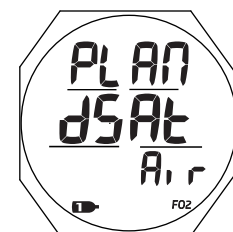

Fig. 29A - PLAN LEAD-IN (Gas 1 set for Air)
**Plan Lead-in**, information includes (Fig. 29A, B):